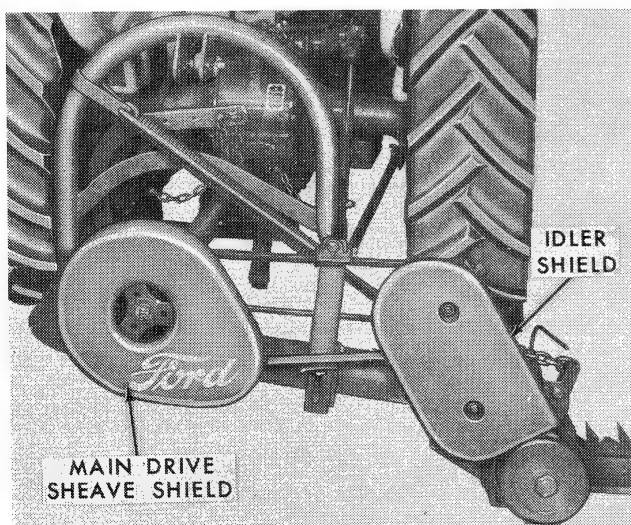

*Figure 37*
- a. Insert the 5/8" – 11 x 3-1/2" bolt, (provided in the bag of hardware) through the hole in the bracket, and upper hole of the front idler shield. See Figure 37.
- a. Insert the 5/8" – 11 x 3-1/2" bolt (provided in the bag of hardware) through the hole in the bracket, lower hole of the front idler shield. See Figure 37.